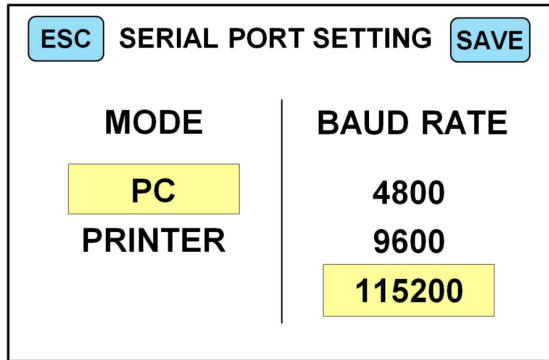

Figure 63
3) In the "SERIAL PORT MODE" interface, first click and select "PC" in the MODE column on the left side, and the baud rate value on the right side can not be selected. The default baud rate of the machine is "115200". After the selection is complete, touch the "SAVE" key in the upper right corner to save, as shown in Figure 63 below.